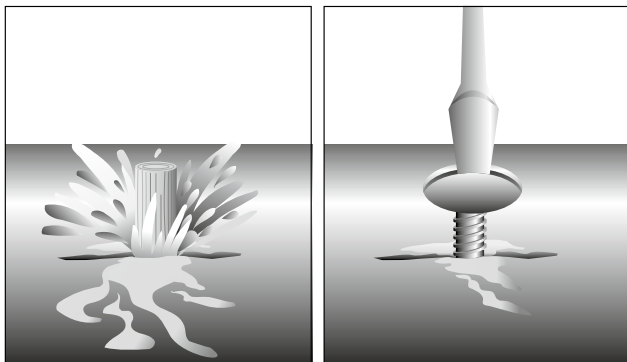

Figure 3. Stop leaks with a wooden plug or screw inserted in area of seepage.
- Stuffing with cork, wax, rags, or any other suitable material. (See *Figure 3*)